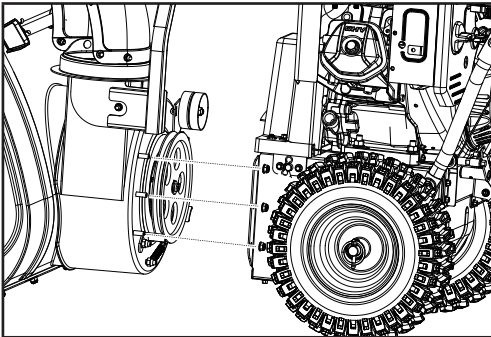

Figure 37
- Unscrew six M8 nuts to separate the auger housing from the base (Fig. 37).